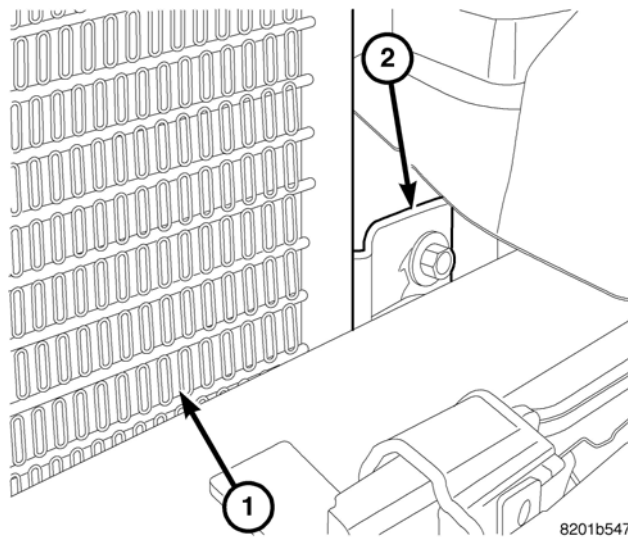

Fig. 14 TRANSMISSION COOLER INSTALLED - LEFT SIDE
32. Using bolt (p/n 06508074AA), install the bolt through the hole in the left tab/bracket into the radiator support, (Fig. 14).